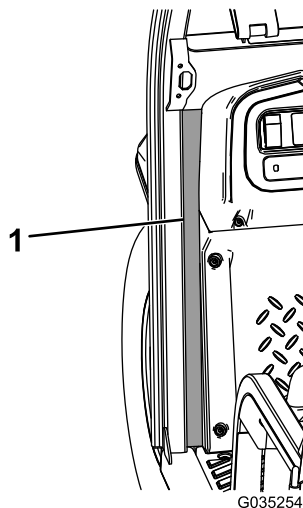

Figure 15
11. Remove the backing from the right, front and left, front foam seals and attach the seals to the machine (Figure 15).